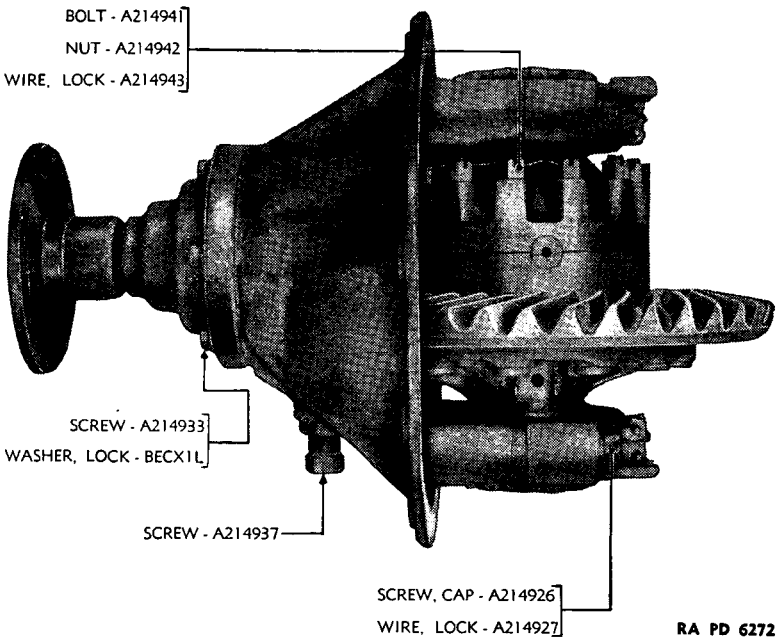

FIGURE 51.—Rear axle drive pinion, installed.
(1) Remove drive pinion assembly— $\frac{5}{8}$ -inch socket wrench. Remove six $\frac{7}{16}$ -inch cap screws (A214933) and lock washers holding pinion outer seal retainer and bearing cage to housing and pull out assembly (fig. 51).